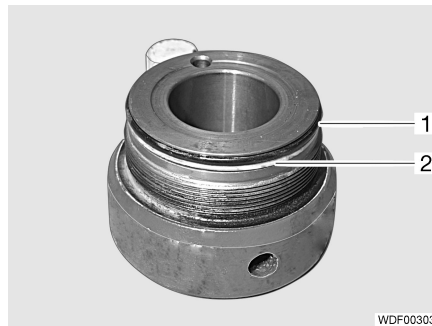

Fig. 169 Inside of the guide bush
- Remove the O-ring (Fig. 169,1).
- Remove the support ring (Fig. 169,2).